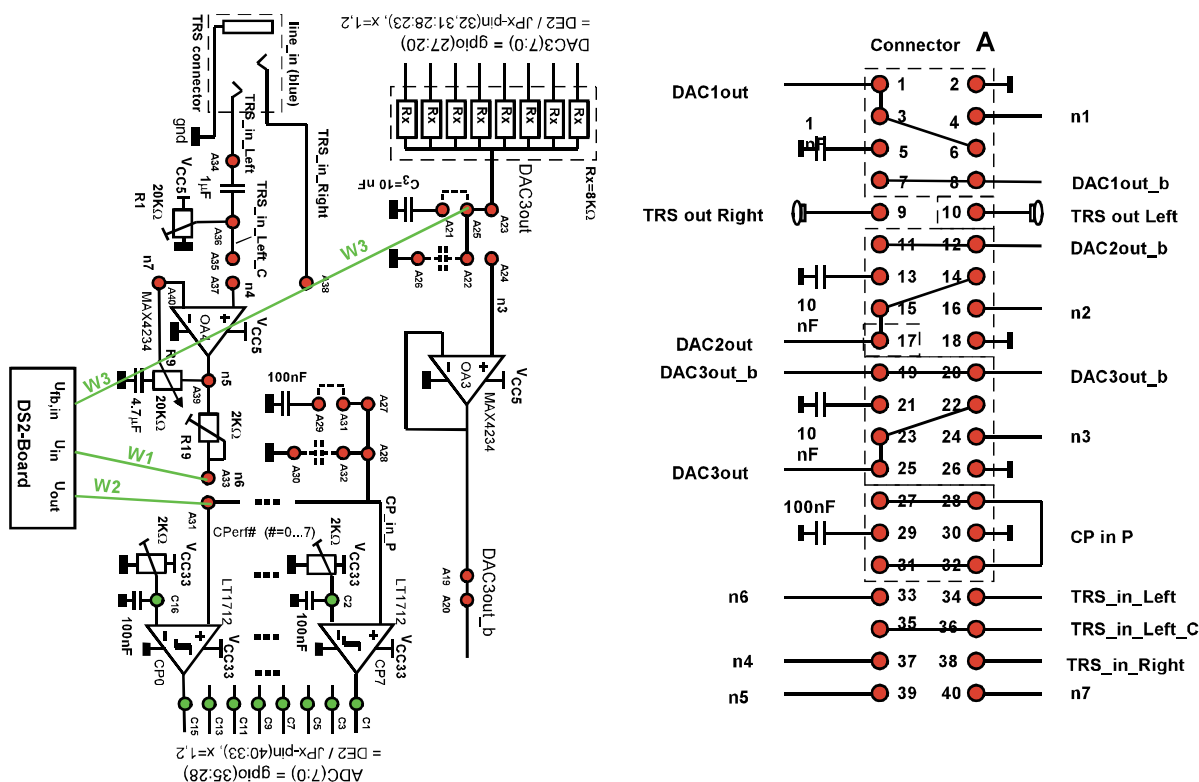

Fig. 3.2: Schematics and jumper situation
The *DSM* grandchild board is plugged under the *ADA* daughter board in the plug-line nearer to the *ADA* board. This automatically connects the wires drawn green in Fig. 3.2. The more distant plug-line is intended for disconnected parking of the *DSM* board.
The DSM board gets its input signal from pin A33 which is wired to E10 of the DSM board. This connection is sketched as green wire *W1* in Fig. 3.2. Wires *W2* and *W3* remain disconnected in this subsection by not setting jumpers E1-E3 and E2-E4.
- To connect the wire *W2* in Fig. 3.2 set jumper E1-E3 on the DSM board.
- To connect the wire *W3* in Fig. 3.2 set jumper E2-E4 on the DSM board.
- On the ADA board, set jumper A25-A27. Sketch jumper settings (pink colour) in Fig. 3.2 left and right. (With these jumper settings output amplifier *OA1* on the DSM board overrides the 1KΩ-output impedance of *DAC3*, as we cannot disconnect *DAC3*.)
The ADA conversion system is complete when we remove the (in Fig. 3.2 pink) jumper A25-A27.
- DSM board: Output voltage U_{out} is connected to ADA-board's Flash-ADC input CP_in_p by wire $W2$ in Fig. 3.2. Confirm jumper E1-E3 on DSM is set acc. to Fig. 3.1(d).
- ADA board: Do: Complete input signal path: Set a jumper on connector A to connect $TRS_in_left_C$ to $n4$. Plot the jumper in both left and right side of Fig. 3.2.